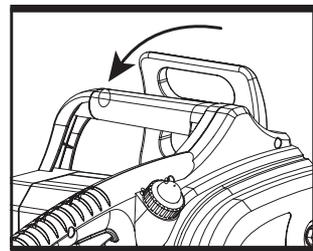

Fig. 14
- 1). Make sure the chain brake level is disengaged. The motor will not start if the chain brake is in the engaged position. Disengage the chain brake level by pulling backward toward the front handle. (See Fig. 14).